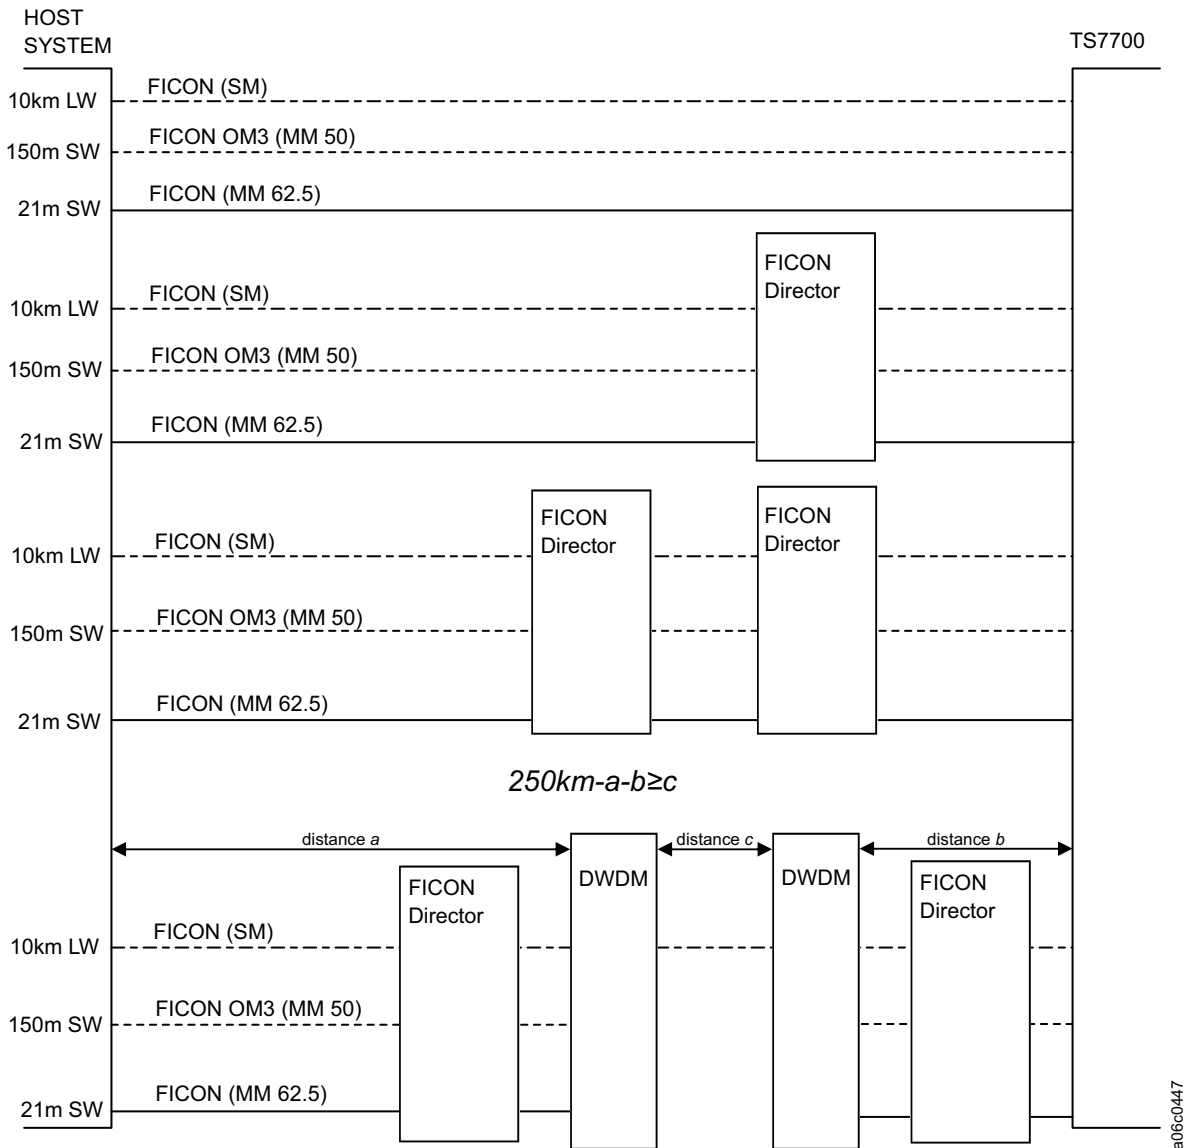

Figure 30. IBM Z® host attachment to TS7700 (at speed of 8 Gb/second)
Figure 30 shows typical FICON attachments between a host and a TS7700. The TS7700 supports IBM Z® servers by using 8 Gbps or 16 Gbps FICON at distances of up to 250 km (155 miles) by using dense wavelength division multiplexing (DWDM) in combination with switches, or more extended distances by using supported channel extension products.
1. The FICON long-wavelength attachment that is shown in Figure 30 is “FC 3439, 8 Gb FICON Long Wavelength Attachment” on page 158, which has a maximum cable length of 10 km.